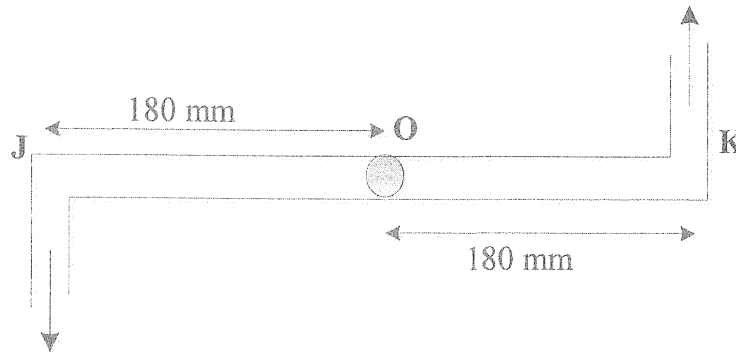

Figure Q5
- Q5. The horizontal lawn sprinkler JOK in figure Q5 with arms JO=OK=180 mm and two nozzles each of exit diameter 7.5 mm discharging to atmosphere at 90° to radial direction has a water flow rate of 1.4 ℓ/s introduced vertically through centre O.